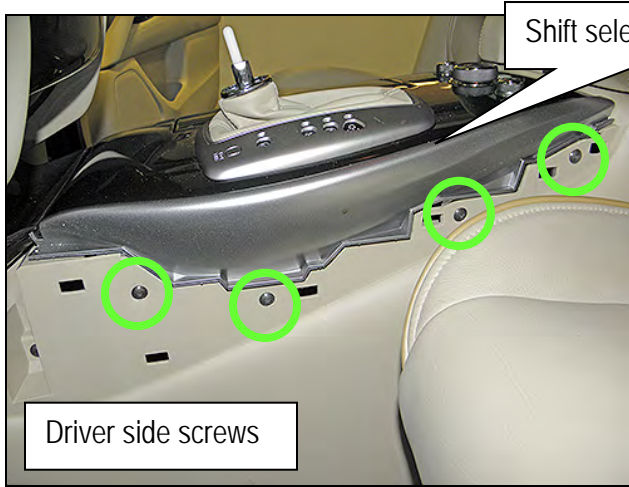

Figure 20B
- Four on driver's side (Figure 20B).